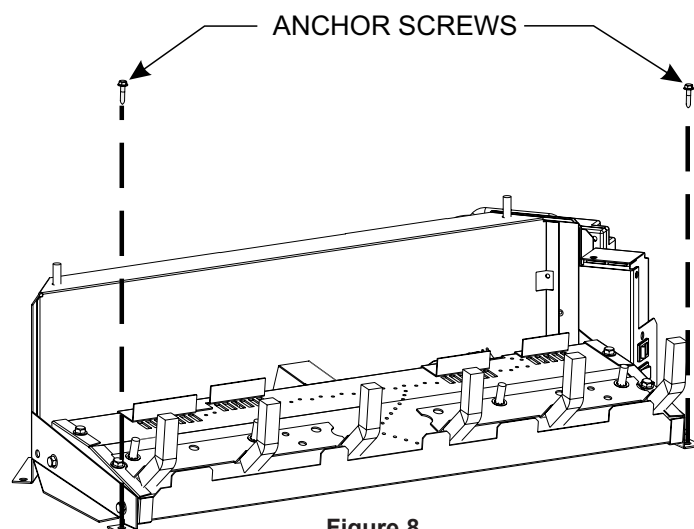

Figure 8
2. An anchor hole is provided in the two bottom side members of the grate frame. After centering the grate correctly, mark the hole positions on the fireplace/firebox floor. Drill two (2) 5/32" diameter holes approximately 1 1/2" deep for masonry screws or 1/8" hole for sheet metal screws.
3. Anchor the grate to the fireplace/firebox floor using the screws provided. **Refer to Figure 8.**